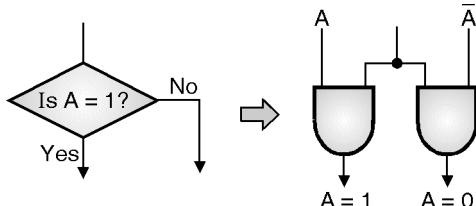

Fig. 9.7.4 : Implementation of If-Then-Else in delay element method of Hardwired control unit
- In case if a decision is to be made then it is implemented using a If-Then-Else circuit i.e. two AND gates coupled to a OR gate. This is shown in Fig. 9.7.4.